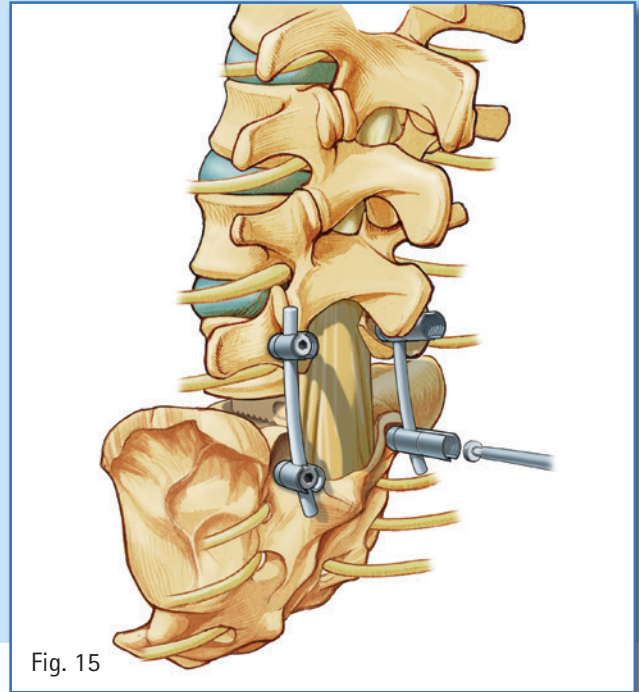

Fig. 15
- Place the S⁴ rod, and then lock in place with the set screws (Fig. 15) as described in the S⁴ Surgical Technique DOC528.